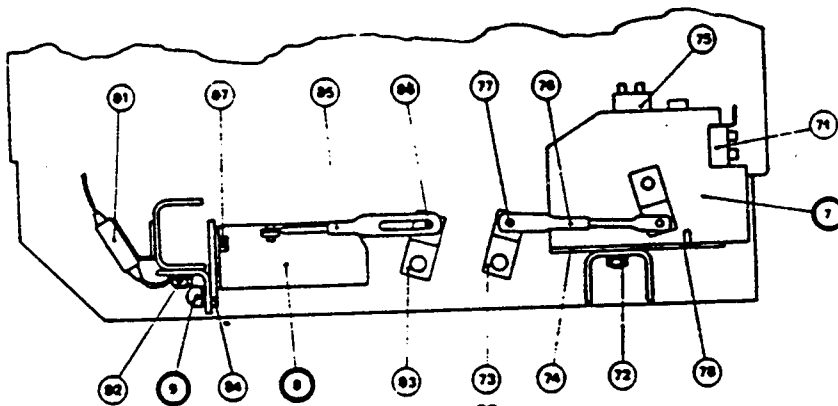

Fig. 28
E. Undervoltage and Shunt Trip Release (Fig. 28). To remove trip device (8), place breaker in open position and remove coil wires from terminal block (81) located on rear of breaker. By removing pin (86) and mounting nuts (82), the device may be removed. When replacing trip device, lubricate and adjust as described in Chapter IV under Voltage Tripping Devices.